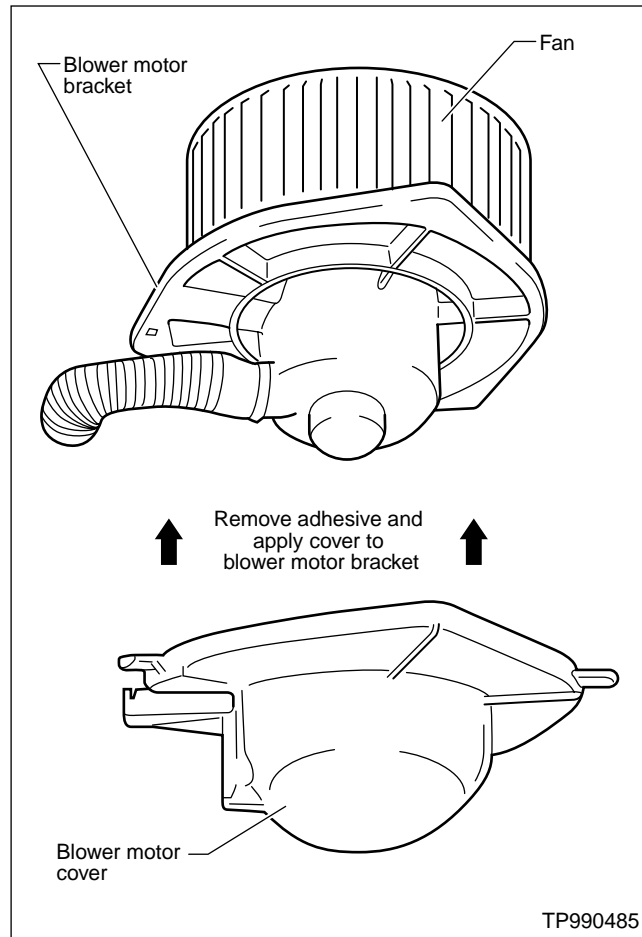

Figure 2
5. Install the blower motor cover onto the motor bracket (see Figure 2).